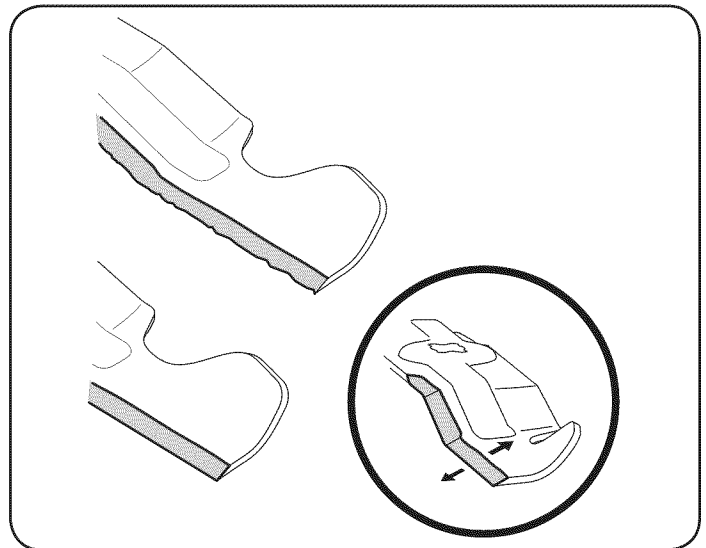

Figure 27
4. To properly sharpen the cutting blades, remove equal amounts of metal from both ends of the blades along the cutting edges, parallel to the trailing edge, at a 25° - to 30° angle. Always grind each cutting blade edge equally to maintain proper blade balance. See Figure 27.